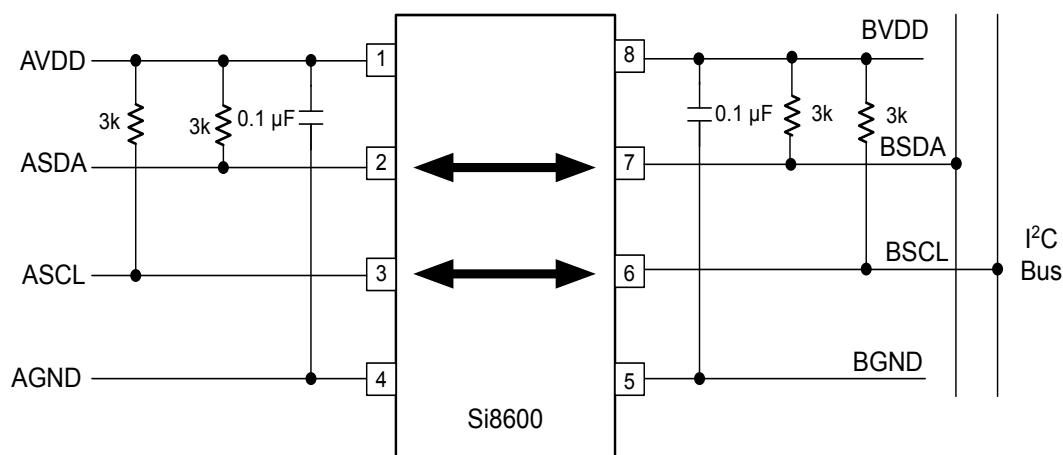

Figure 3.2. Typical Si8600 Application Diagram
3.0 V < VDD < 5.5 V. T_A = −40 to +125 °C. Typical specs at 25 °C (See Figure 5.2 Simplified Timing Test Diagram on page 18 and Figure 3.2 Typical Si8600 Application Diagram on page 8 for test diagrams.)